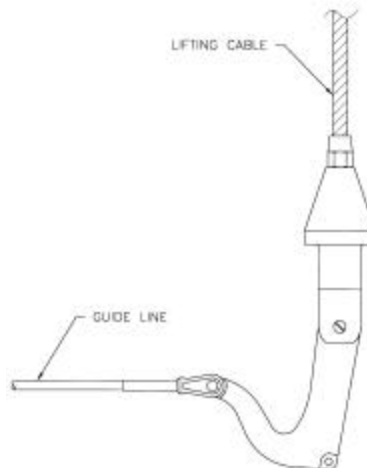

Figure 4-11 – Crane Hook (Recovery)
4. Remove the guide line and shackle from the back of the crane hook and reconnect the guide line to the beak of the crane hook as shown in Figure 4-11.